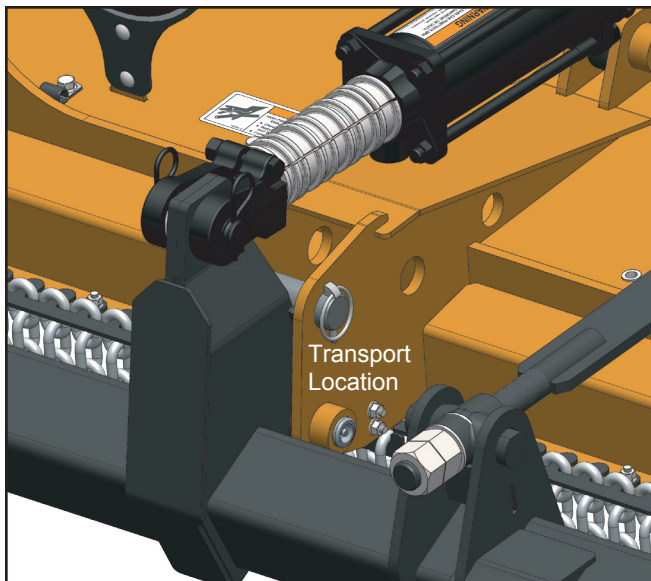

Figure 3. Transport Lock Pin in Standard & Narrow Width Positions
2. Remove klik pin and lock pin from storage position (Figure 3).